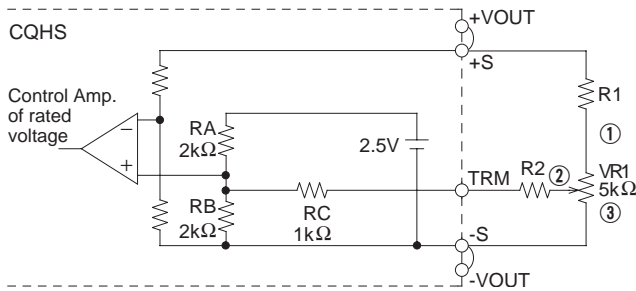

Fig. 4.4 Output voltage control circuit
- By connecting the external potentiometer (VR1) and resistors (R1, R2), output voltage becomes adjustable, as shown in Fig. 4.4, recommended external parts are shown in Table 4.2.